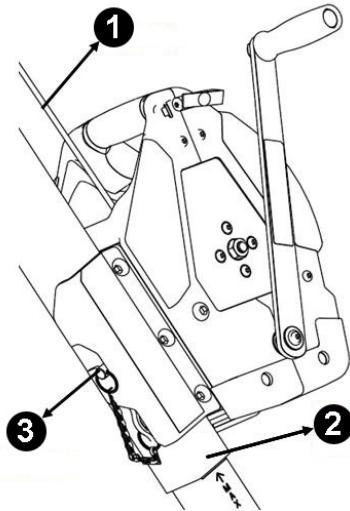

Fig. 3
The winch is designed for use with the MSA Workman Tripod. See Fig. 3. The winch serves as the primary lifting-lowering device for systems which use the tripod to position equipment for confined space entry above the area to be accessed. The winch mounts to the side of the tripod leg. This position permits operation of the winch by a surface attendant positioned away from the confined space access point, maximizes the usable space in the interior of the tripod and increases stability by lowering the tripod's center of gravity.
- See Fig. 3 and follow the installation label in section 8.